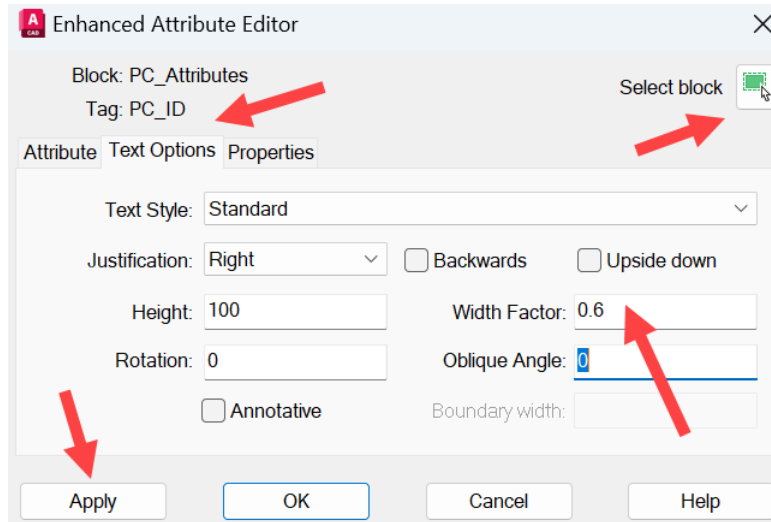

Figure 10.18: The Text Options tab settings
3. Select the **Text Options** tab in the editor. Note that at the top of the editor, you can see which block and attribute you are working on (indicated using arrows). You can also select another attributed block to work on using the **Select block** icon (also indicated using arrows). This is all shown in *Figure 10.18*.
4. Change the **Width Factor** value from 1 to 0.6, as shown in *Figure 10.18*. Click on **Apply** to see the text width of the **PC\_ID** attribute change. Do *not* click on **OK** at this point.